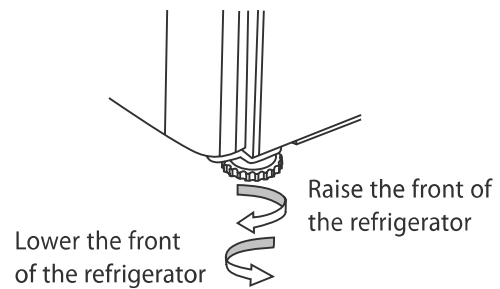

Fig.11 Refrigerator feet
- C** Adjust the front feet down until the refrigerator is leaning backward with the front approximately $\frac{1}{2}$ " (10 mm) higher than the back. This will ensure a good door closing action. (Refer to Fig.11).